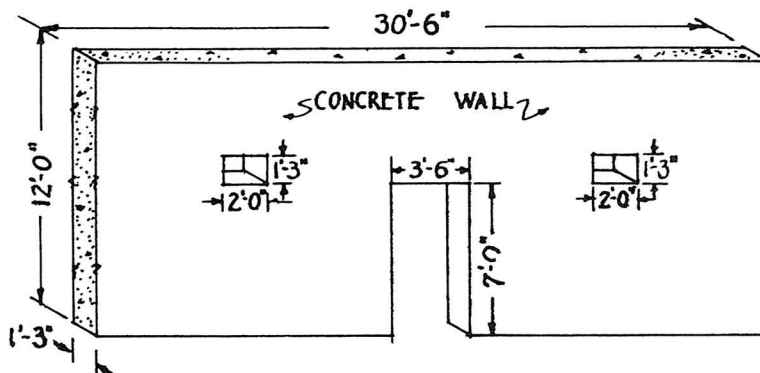

Fig. 4
4. Figure the number of sq. ft. of form work for the ends and openings of the concrete wall shown in Figure 4.
5. Both sides of the concrete wall in Figure 4 are to be covered with lattice work. Compute the surface area to be covered, if a deduction for all openings is made.
8. How many square feet of form work would be required for the entire wall in Figure 4?